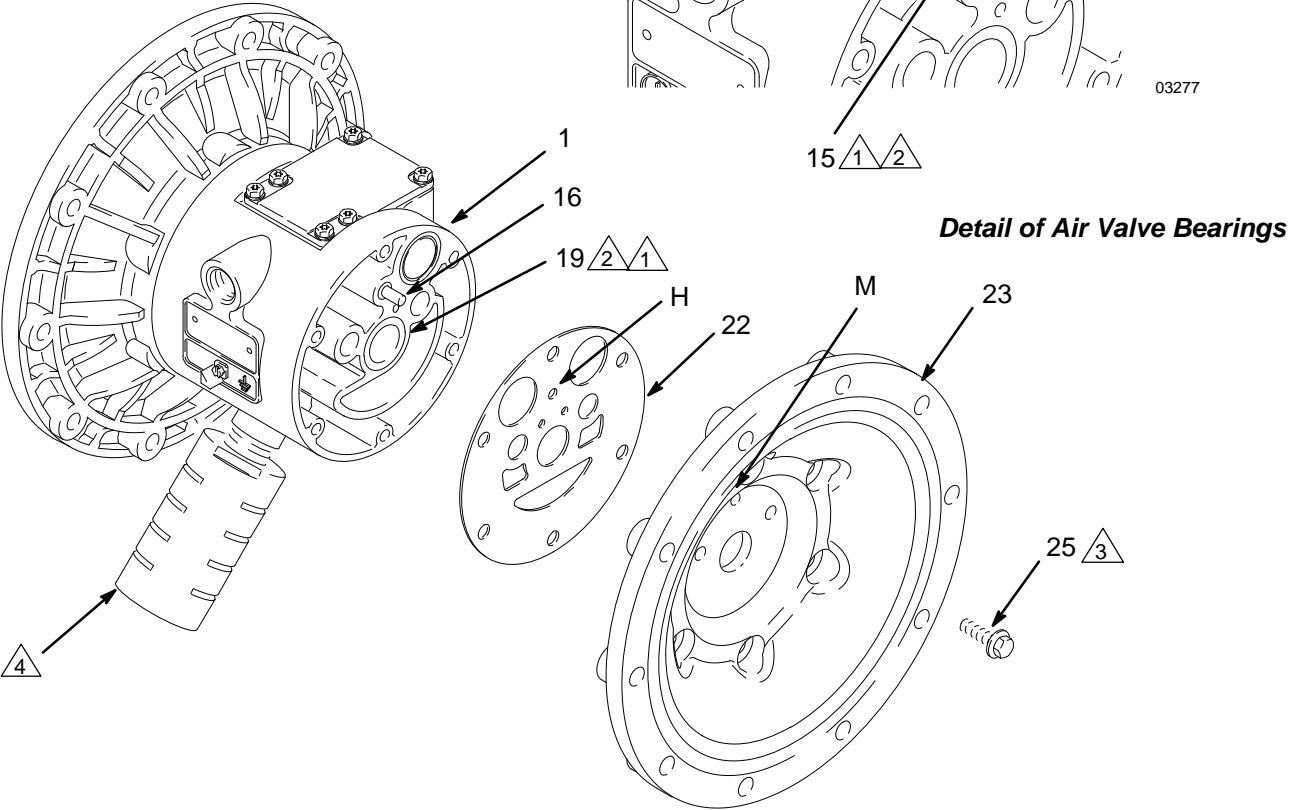

FIG. 13
- NOTE:** If you are removing only the diaphragm shaft bearing (19), skip step 4.
5. Using a 10 mm socket wrench, remove the screws (25) holding the air covers (23) to the center housing (1). See FIG. 13.
6. Remove the air cover gaskets (22). Always replace the gaskets with new ones.
7. Use a bearing puller to remove the diaphragm shaft bearings (19), air valve bearings (12) or pilot pin bearings (15). Do not remove undamaged bearings.
8. If you removed the diaphragm shaft bearings (19), reach into the center housing (1) with an o-ring pick and hook the u-cup packings (402), then pull them
1. If removed, install the shaft u-cup packings (402*) so the lips face **out** of the housing (1).
2. The bearings (12, 15, and 19) are tapered and can only be installed one way. Insert the bearings into the center housing (1), **tapered end first**. Using a press or a block and rubber mallet, press-fit the bearing so it is flush with the surface of the center housing.
4. Align the new air cover gasket (22) so the pilot pin (16) protruding from the center housing (1) fits through the proper hole (H) in the gasket.
5. Align the air cover (23) so the pilot pin (16) fits in the middle hole (M) of the three small holes near the center of the cover. Apply medium-strength (blue) thread locker to the threads of screws (25), and install the screws handtight. See FIG. 13. Using a 10 mm socket wrench, torque the screws oppositely and evenly to 130-150 in-lb (15-17 N•m).